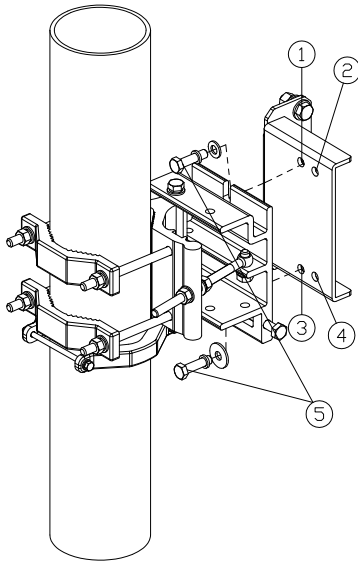

Fig 11.1
Make coarse elevation adjustment (shown in Fig 11.1): loosen the bolts (No.5). Use ① & ④ thread holes, antenna can make elevation adjustment from -25° to $+5^{\circ}$. Use ② & ③ thread holes, antenna can make elevation adjustment from -5° to $+25^{\circ}$. Tighten all the standard parts after the adjustment is done.